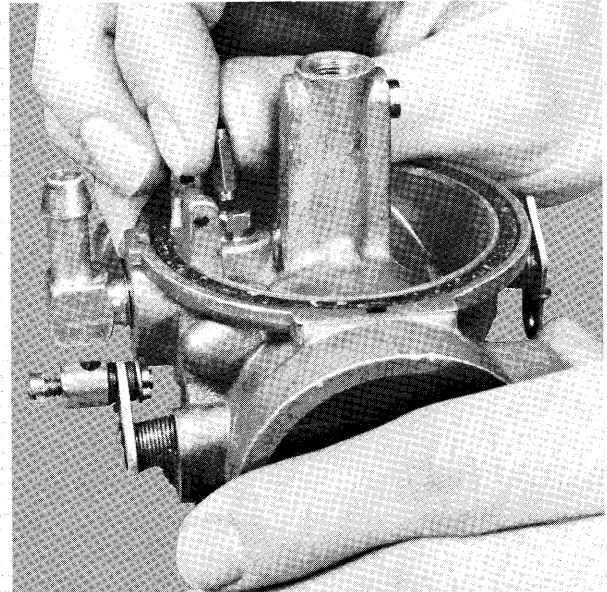

Figure 8—Removing Inlet Needle
- C. Remove inlet needle as shown in figure 8.
- C. Install inlet needle as shown in figure 8.